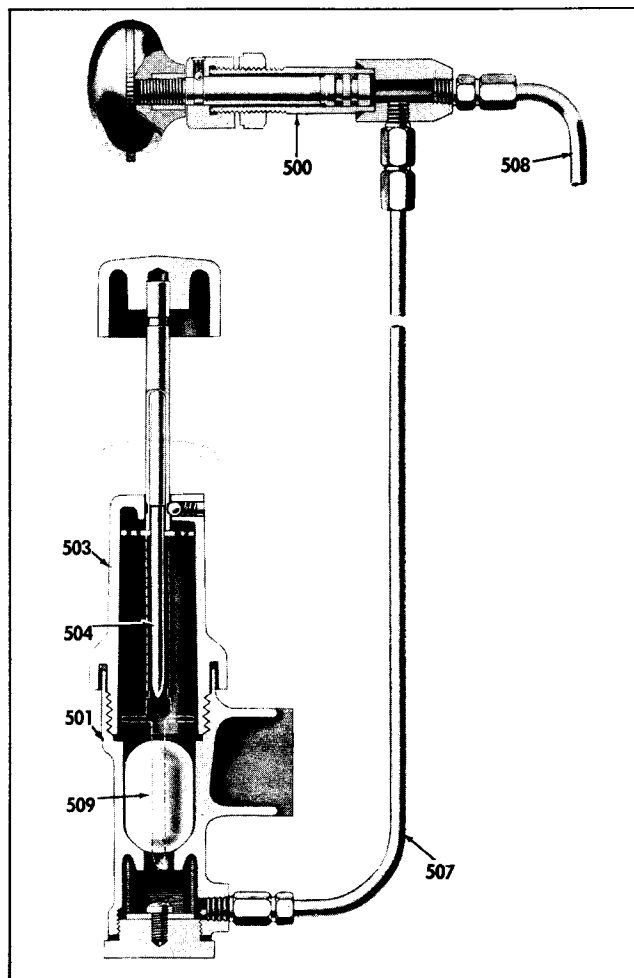

Fig. 26—Schematic Diagram of Fluid Starting Aid.
Figure 26 shows the general arrangement of the fluid starting aid. It consists of a capsule container (501) which is a tight cylindrical chamber fitted with a screw cap (503). Inside the capsule container is located the sliding, plunger-like piercing shaft (504). From the capsule container a tube (507) leads to the piston type, hand-operated pump (500). Another tube (508) leads from the pump to the atomizing nozzle.